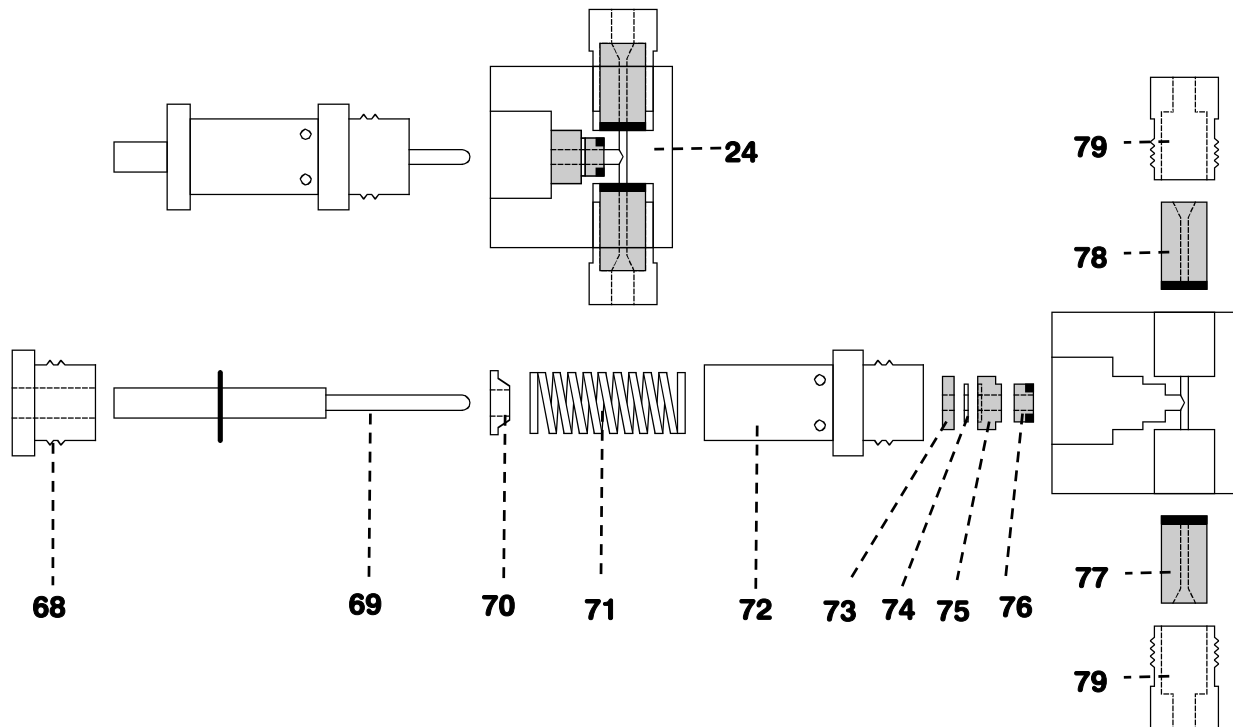

Figure 15: Components of the pump head
- Strip down the pump head **24** in accordance with *Figure 15* into its components. The main piston and auxiliary piston are identical, apart from the following exceptions:
- When reinstalling the inlet valve **77** or outlet valve **78**, on no account may the two outwardly identical valves be interchanged. In order to determine which valve is which, note that the fluid flows through the pump head from bottom to top. The flow direction of the valves can be checked simply by blowing through the clean valve. Both valves must be fitted with the black face pointing in the direction of the pump head (see *Figure 15*).
- Reassemble the components of the pump head **24** as shown in *Figure 15*. Tighten the screw **68** by hand. First screw in the piston cartridge **72** fully and then tighten it a further 15° with a spanner. Firmly tighten the two valve screw holders **79** with a spanner.
- Reattach the pump head **24** to the pump with the four securing screws. Tighten the screws when doing this with the Allen key 6.2621.030.